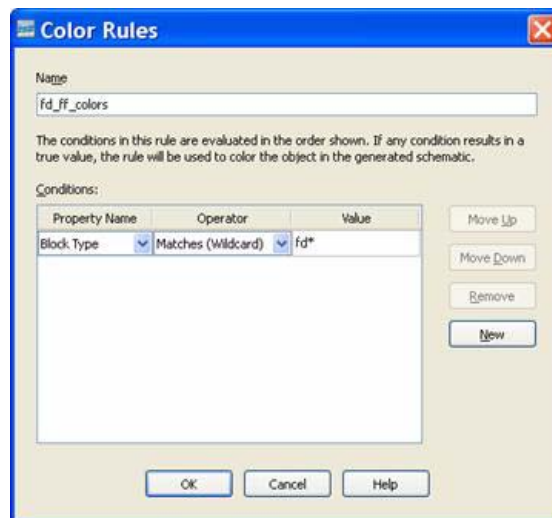

Figure 7-9: Color Rules Dialog Box
5. Select **Block Type** for Property Name, then select **Matches(Wildcard)** as **Operator**, and finally type **fd*** as a value as shown in Figure 7-9. Press **OK**.